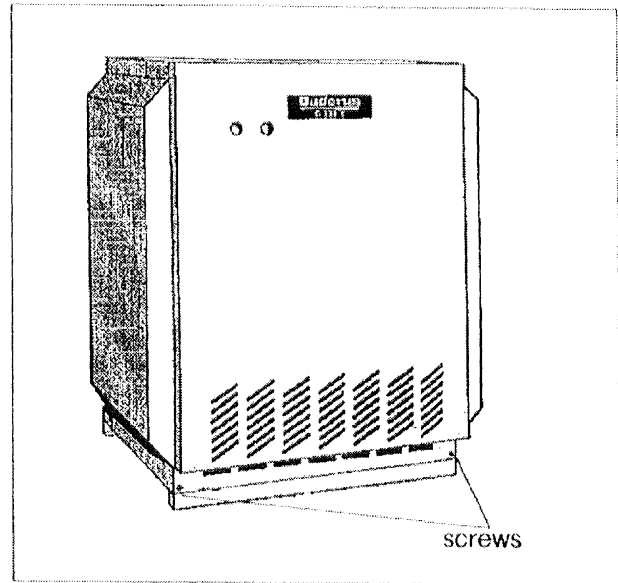

Fig.1
1. Remove Control Access Panel from the boiler, fig.1